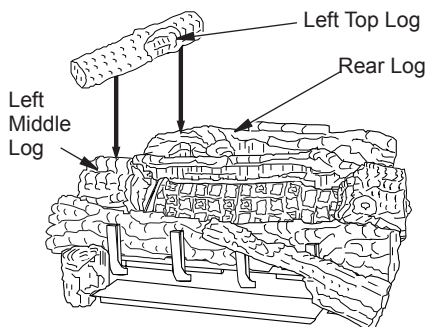

Figure 33 - Installing Left Top Log
9. Place the left top log (D-046) onto the rear log and the left middle log. Make sure to place the projection on the bottom of the left top log into the recessed areas on the rear and left middle logs (see Figure 33).